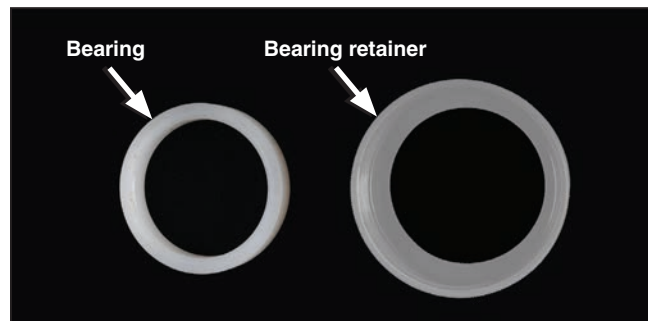

Figure 27. Inspect the bearing and bearing retainer.
STEP 23. Inspect the bearing and bearing retainer for evidence of mechanical damage. See Figure 27. Replace as required.